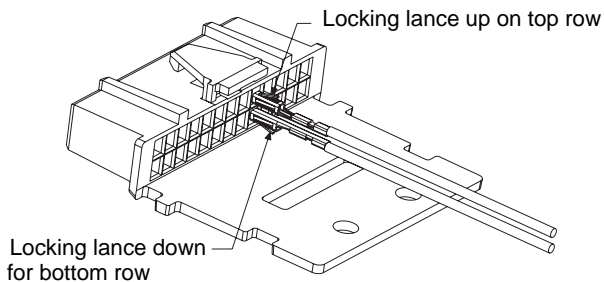

Figure 2. Terminal Orientation
7. Insert the contacts into pin locations #9 and #10 on the accessory connector as shown in *Figure 2*.